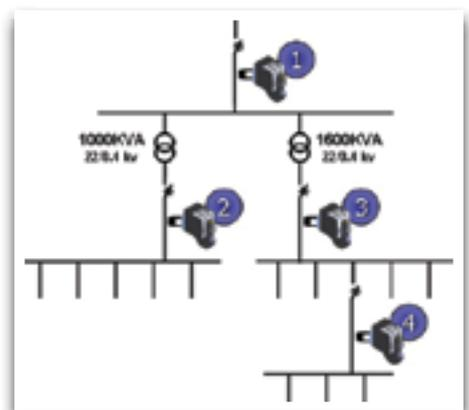

Figure 1
of each transformer and at one of the MCC with many reported failures (hereinafter named ①, ②, ③ and ④ as showed at Figure 1). Each device utilizes the patented PQZIP compression technology, which provides typical 1000:1 compress ratio, to record all the data at 512 samples per cycle for a period of a few months onboard.